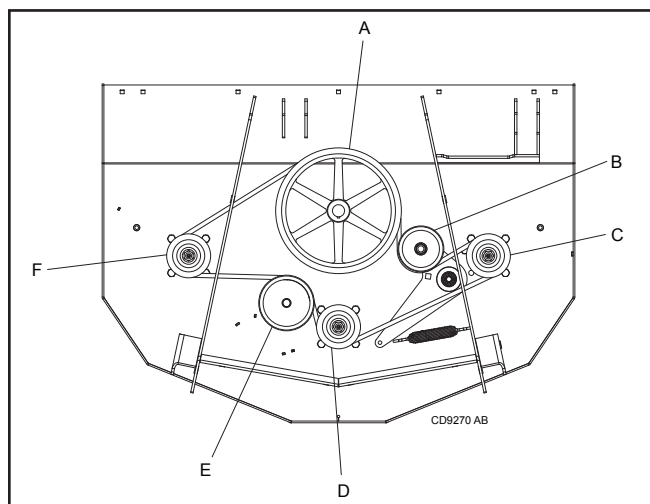

Figure 12. Belt Routing for TBW12.40 Wing Deck
1. Route belt around spindle sheave F, backside idler E, and spindle sheave D as shown in Figures 12–14.
1. Route belt around spindle Sheave F, backside idler E, and spindle sheaves C & D as shown in Figures 12–14.